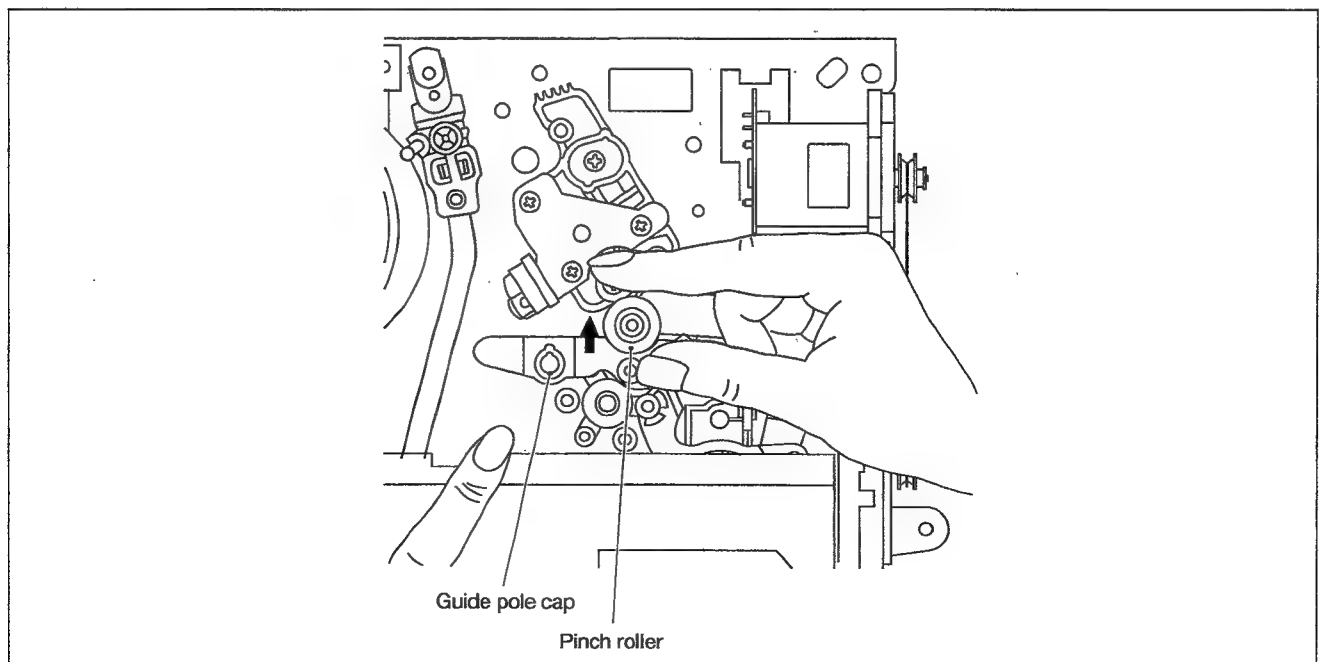

Fig. 2-1-4
- (3) Remove the top plate as done in Step (4) of "1 In case of electrical failures" and remove the guide pole cap at the same time. (See Fig.2-1-4).
- (4) While lifting the cassette tape lid, hold the cassette tape case and pinch roller by the fingers and move them toward the loading motor to relieve pressure on the tape. Then remove the tape while taking the cassette case out of the cassette holder. (See Fig.2-1-4).
- (5) Re-place the guide pole cap and take up the slack of the tape into the cassette.